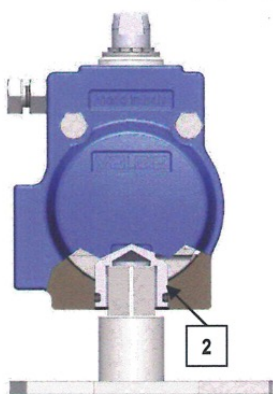
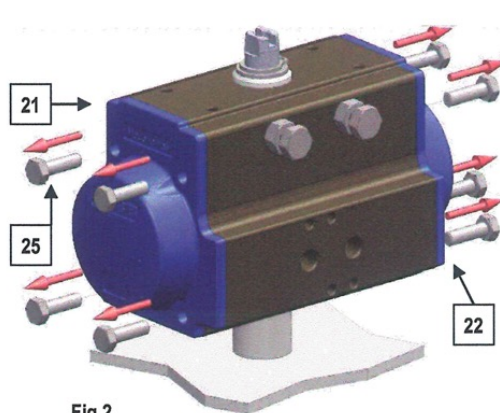
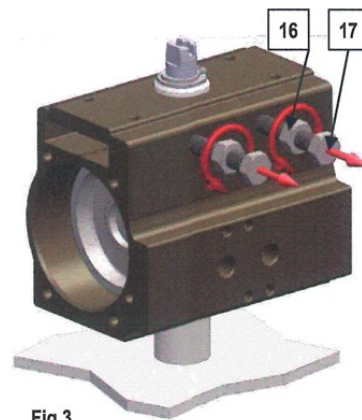

Fig.1
Fig.2
Fig.3
4. Place the actuator on a support with a square of the same size of the pinion (2) so as to easily execute the below listed operation (see Fig. 1):
5. Before disassembling the actuator check from the label on the body whether it is a double acting (DA) or spring return (SR) type;
6. For DOUBLE ACTING ACTUATOR: Unscrew in crossed sequence the bolts (25) for fastening the end caps (21-22) see Fig. 2
7. For SPRING RETURN ACTUATOR: Unscrew GRADUALLY in crossed sequence the bolts (25) for fastening the end caps (21-22), Fig. 2; Note: the bolts are long enough to hold the springs even if extended; Loosen nuts (16) and unscrew bolts completely (17) see Fig. 3 ;